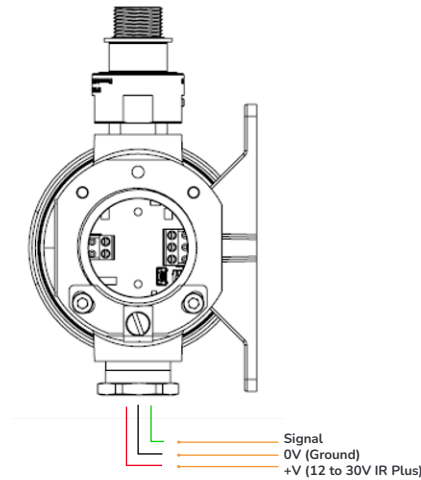

Figure 3: Field cable connections on the IR Plus
Connect field cables using a certified gland via the chosen cable entry on the IR Plus body (M20 or 3/4" NPT), as indicated in Figure 3. Crowcon recommends cable glands are installed pointing downwards.
- Refer to Section 2.6 for instructions on wiring. See also Figure 3.